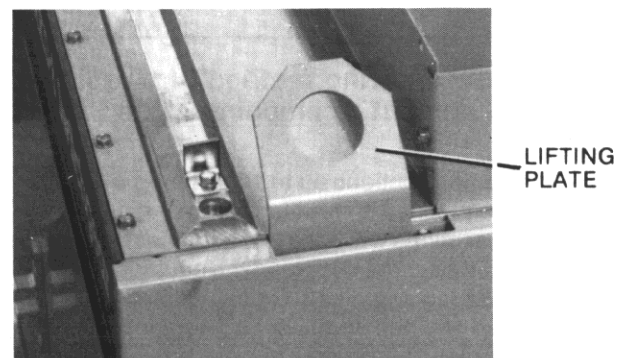
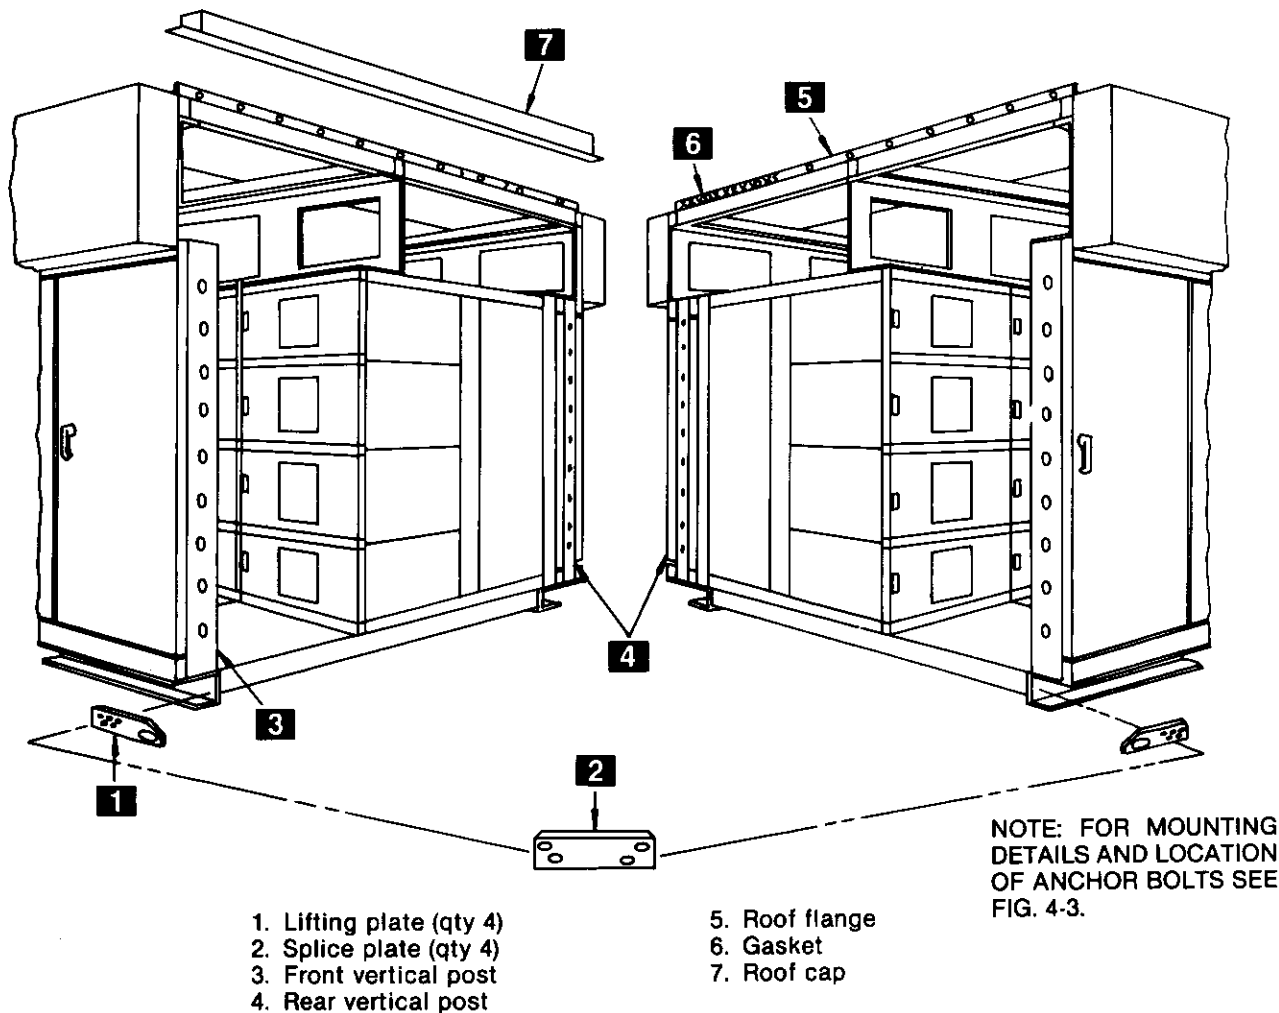
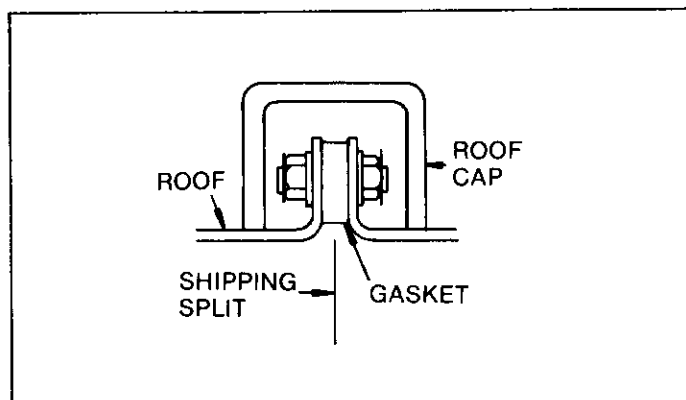

Fig. 4-5. Lifting plate location
Fig. 4-19. Outdoor enclosure shipping split assembly
Fig. 4-20. Cross-section view of assembled roof joint
NOTE: If the equipment line-up was split into shipping sections, the lifting plates on corners of adjacent sections shown in Fig. 4-5 must be removed. Failure to remove these plates will interfere with mating adjacent sections and prevent installation of bus splice plates, structure tie plates, etc.
2. **HOLD GASKET IN PLACE**—After removal of the lifting plates (see Fig. 4-5), it is necessary to cement a gasket (6), Fig. 4-19, to the mounting surface of the roof flange (5). The gasket material and cement (3M No. EC870) are supplied with the equipment. Apply a coat of cement to one side of each gasket and position it on one side of the joint.
4. **FASTEN SECTIONS TOGETHER**—Referring to Fig. 4-19, the mating sections of the outdoor enclosure should be immediately bolted together including the front (3) and rear (4) vertical posts and the roof flange (5). Each vertical post will require ten $\frac{3}{8}$ -16 NC x 1-inch bolt assemblies; the roof flange will require either eleven or twelve $\frac{3}{8}$ -16 NC x $\frac{1}{2}$ -inch bolt assemblies. The bolts should be tightened with a torque of 25 ft-lbs. Figure 4-20 is a cross-sectional view of the assembled roof joint.
5. **TIE HOUSING BASES TOGETHER**—Referring to Fig. 4-19, tie the bases of the outdoor housing together using the splice plate (2) supplied with the equipment and the bolts which previously secured the lifting plates (1) removed after emplacement of the equipment. The nuts are welded to the rear surface of the base. The bolts should be tightened with a torque of 45 ft-lbs.
6. **INSTALL THE ROOFCAP**—The roofcap (7), Fig. 4-19, should be installed over the sealed and fastened roof flange assembly (5). The roof cap is secured in place with two $\frac{1}{4}$ -20 NC x $\frac{1}{2}$ -inch thread forming bolts, each at the front and the rear ends of the roof cap. These bolts should be tightened with a torque of nine ft-lbs.